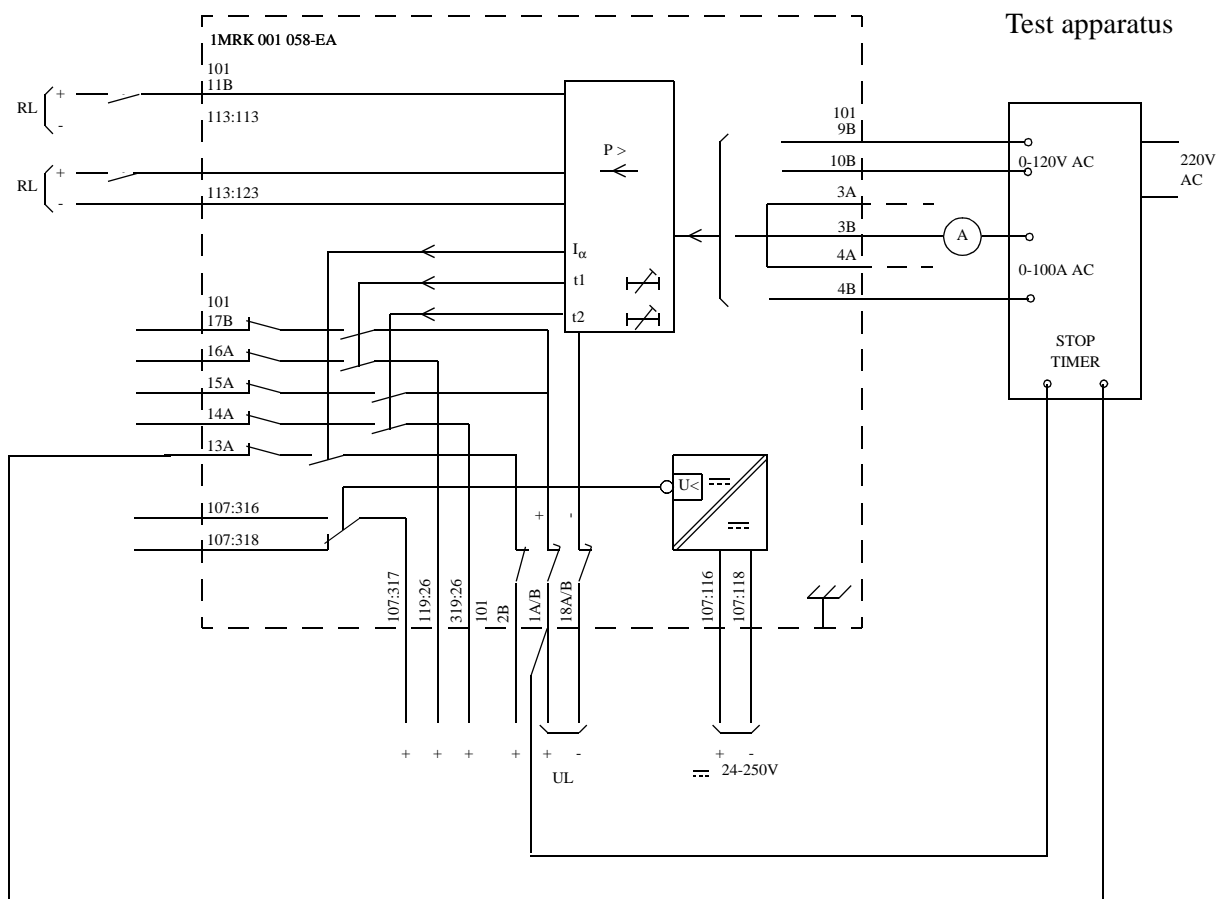

Fig. 15 Connection of test apparatus, with test handle RTXH 18 inserted.
Fig. 15 shows as an example the connection of test set for secondary testing of the 1-phase reverse / low-forward power protection RAPPK, Connection Diagram 1MRK 001 058-EAA. When testing, even the actual circuit diagram of the protection, which shows the internal connections, should be available.
**1. Connections:** Insert the test-plug into the test switch and connect the test set according to Fig. 15 to test the relay functions.